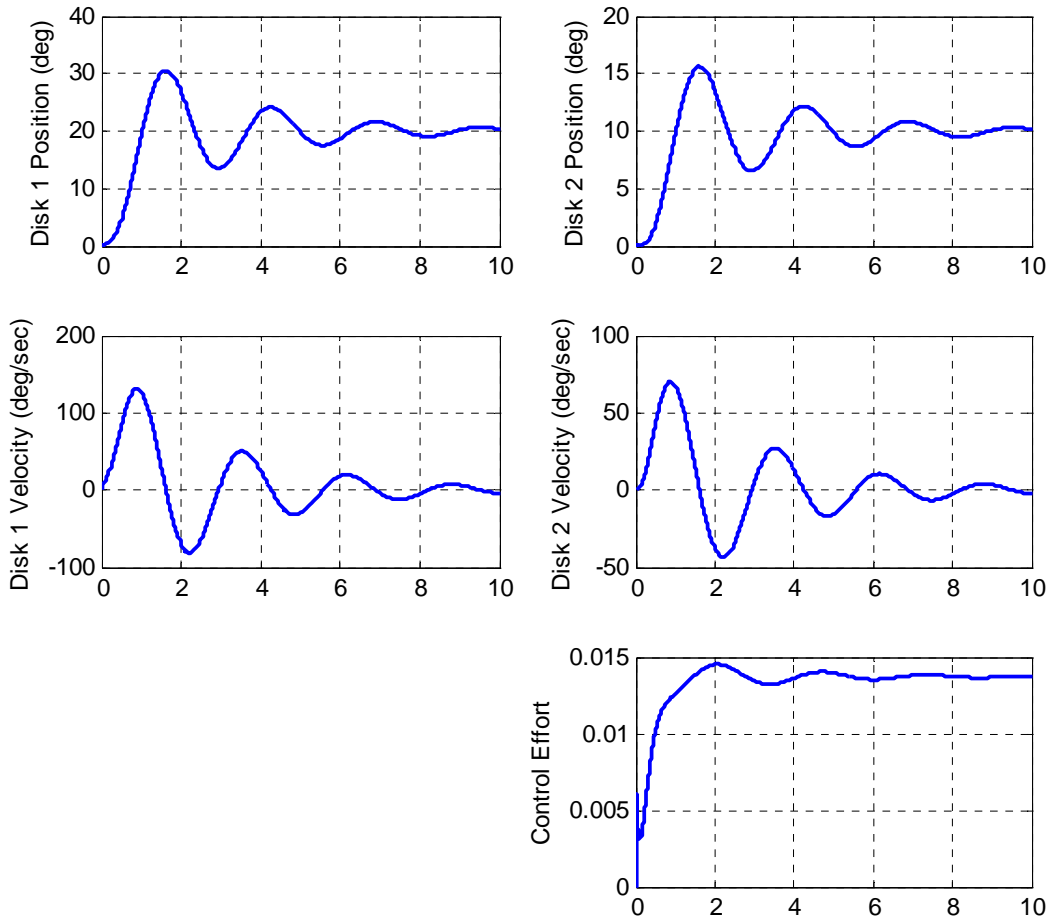

Figure 6. Integral control of a 2 dof system with bad data. We are controlling the position of the second disk (problem 2d).
d) Assume your lab partner screwed up gain, so your model is not accurate. To see what happens when the model does not match the real system, just before the simulation type $A = A*0.25$, place the poles at -5, -10, -15, -20, -2500, and run the simulation for 10 seconds, you should get a plot like that in Figure 6.